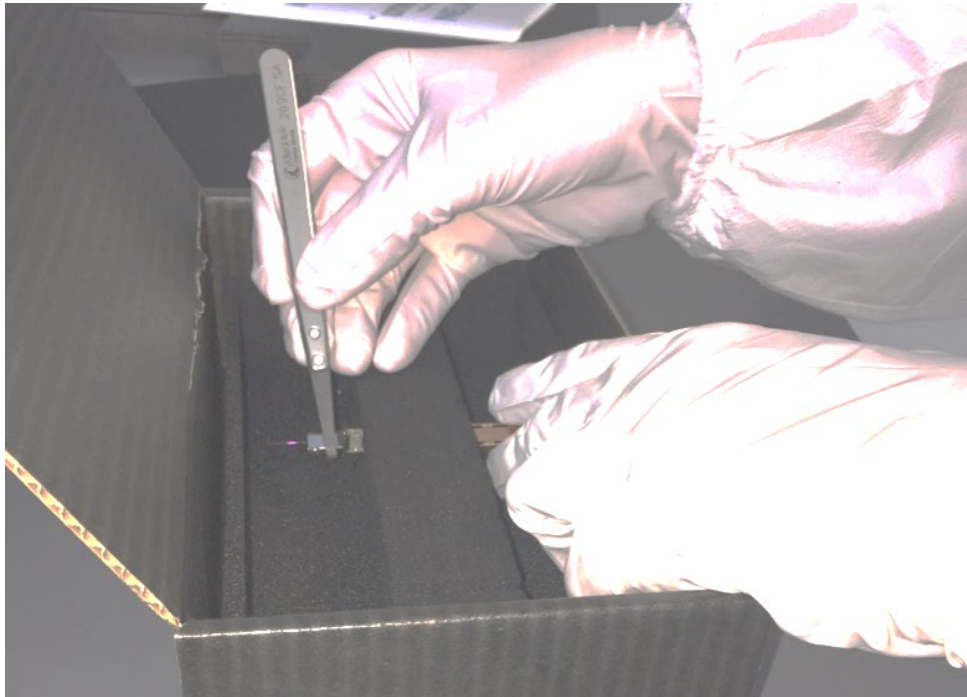

Figure 39: Removing the probe from the shipping box (foam with diagonal slits)
- Take a pair of ESD-safe tweezers and carefully clamp the base of the probe as shown in Figure 39.